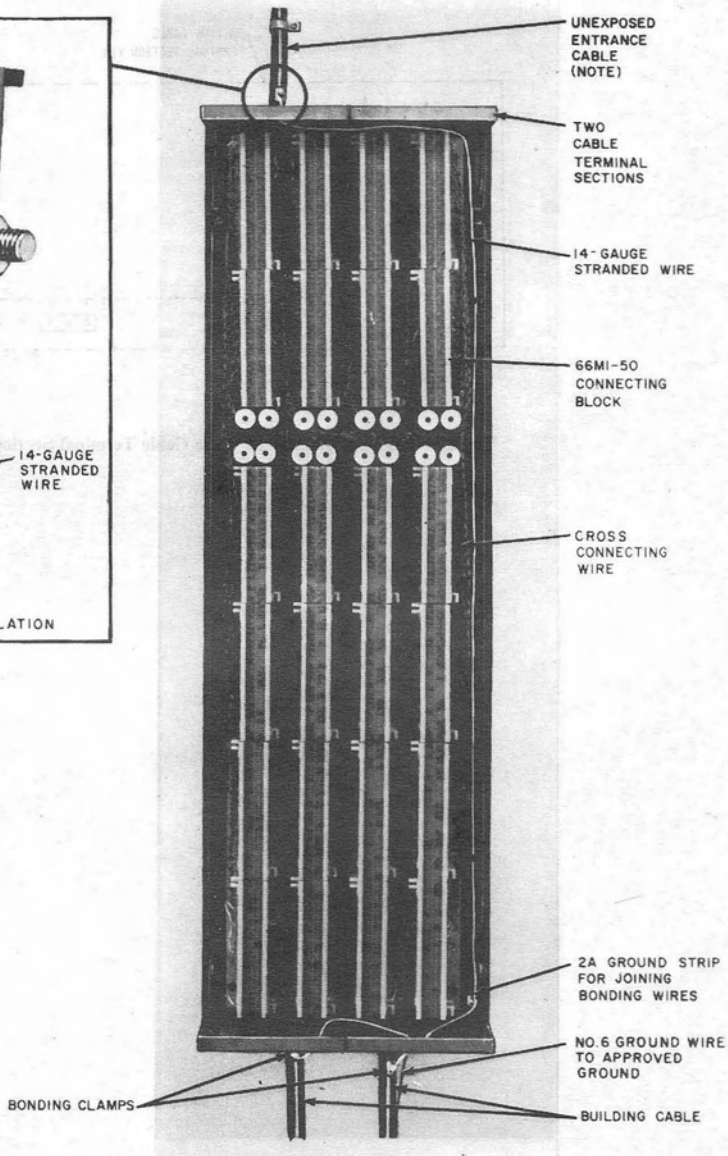

Fig. 16—Grounding Unexposed Feeder Cable and House Cable
**5.03** When unexposed feeder and → intra~~building~~ network ← cables are terminated on unprotected terminal blocks such as the 66-type, ground the cable shields in the metal terminal housings as described in Sections 631-460-201 and 631-470-201. The terminal housing must in turn be grounded by running a No. 6 AWG copper ground wire to an approved ground. Figure 16 illustrates bonding of the →intra~~building~~ network← and feeder cable shields to the grounded metal housing by using bond clamps.